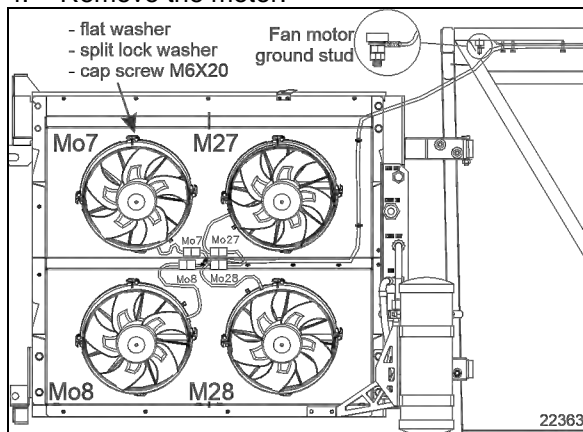

FIGURE 27: CONDENSER FANS
2. Unplug the fan harness. (Figure 27).